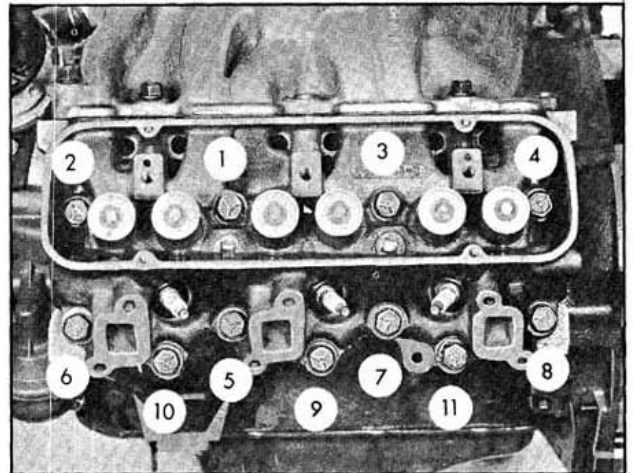

Fig. 3-11 Cylinder Head Bolt Tightening Sequence
6. Tighten the head bolts a little at a time about three times around in the sequence shown in Fig. 3-11, then torque the bolts in the same sequence to 70 ft. lbs.